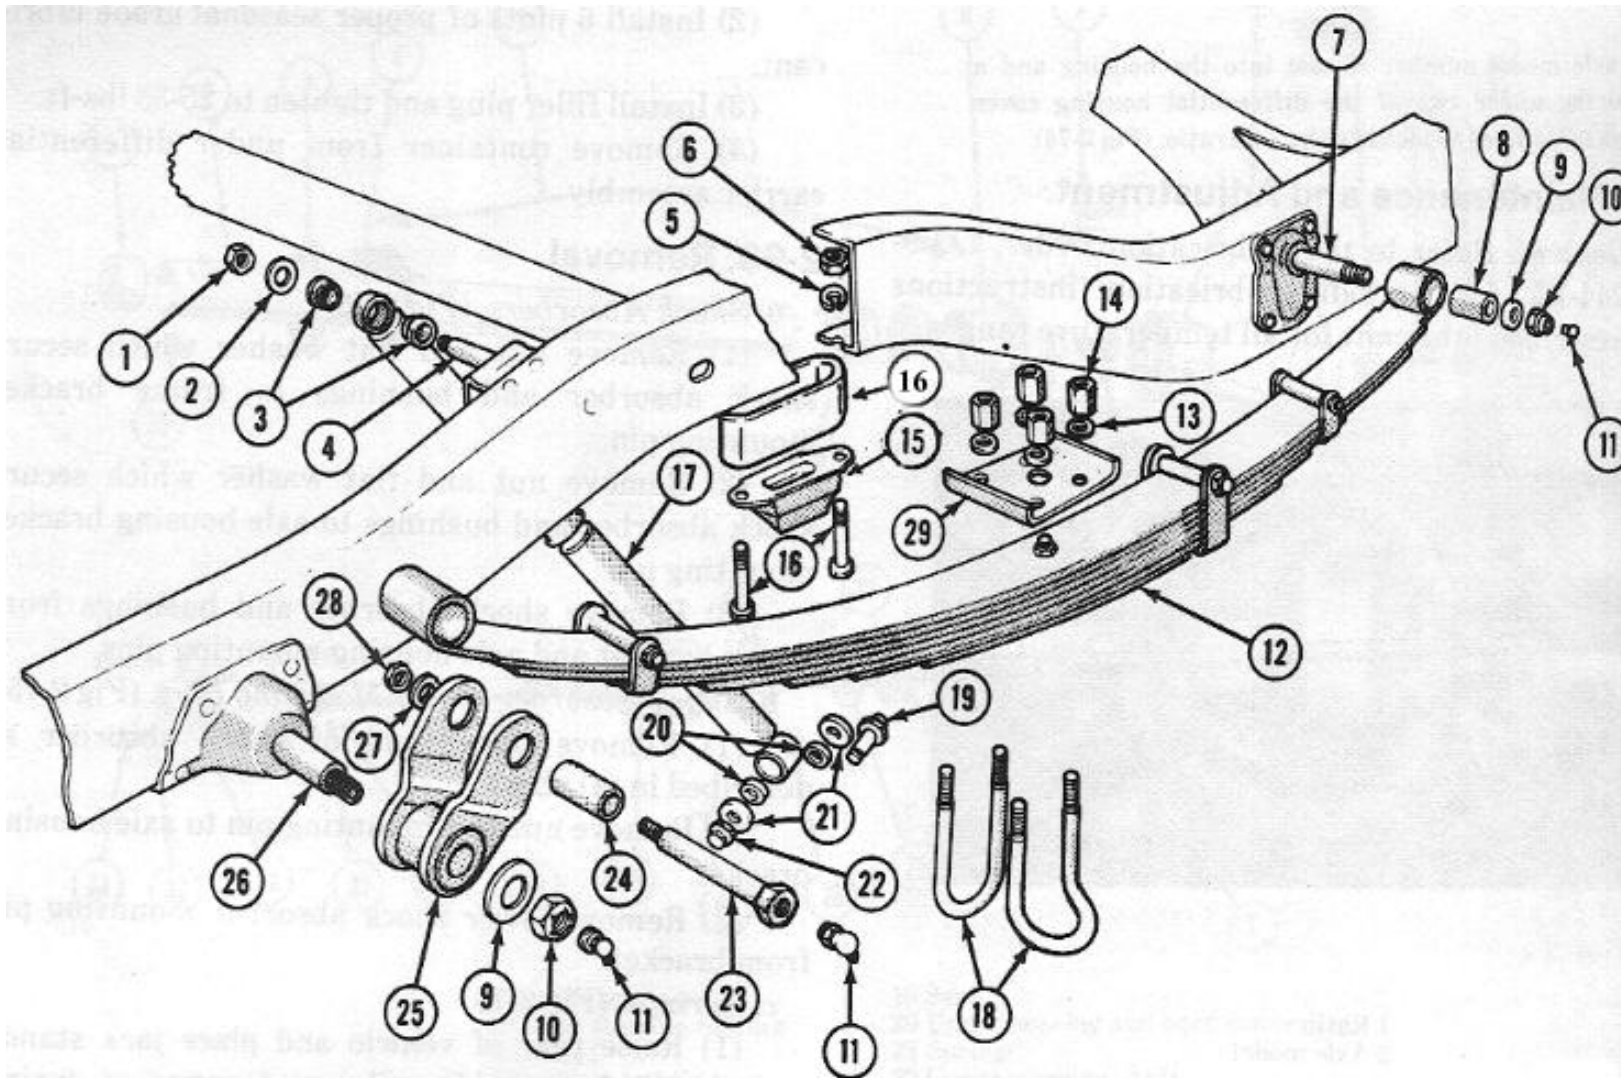

FIGURE 2-75. Rear Suspension Components
a. Shock Absorbers. (Fig 2-75)
- (1) Remove nut and flat washer which secure shock absorber and bushings to frame bracket mounting pin.
- (2) Remove nut and flat washer which secure shock absorber and bushings to axle housing bracket mounting pin.
- (3) Remove shock absorber and bushings from frame bracket and axle housing mounting pins.
b. Shock Absorber Lower Mounting Pins. (Fig 2-75)
- (1) Remove upper end of shock absorber as described in (a) above.
- (2) Remove nut and mounting pin to axle housing bracket.
- (3) Remove lower shock absorber mounting pin from bracket.
c. Springs. (Fig 2-75)
- (1) Raise rear of vehicle and place jack stands under each frame side rail just forward of spring front hangers.
- (2) Support axle with floor jack so that tension and compression are relieved from spring.
- (3) Remove four U-bolt nuts and lock washers.
- (4) Remove U-bolt anchor plate and U-bolts.
- (5) Remove nut and flat washer from spring front hanger bolt.
- (6) Remove nut and washer from rear shackle bolt. Remove bolt from shackle and spring bushing using a drift.
- (7) Remove spring from vehicle.
- (8) Remove bolts, nuts, lock washers and remove spring bumper from frame.
a. Springs. (Fig 2-75)
- (1) Position spring assembly on spring seat so that head of spring center bolt is properly located in the hole in spring seat.
- (2) Position U-bolts on top of spring assembly.
- (3) Position U-bolts over axle tube and up through spring plate.
- (4) Install four lock washers and nuts on U-bolts. Do not tighten.
- (5) Position spring onto front hanger pin. Install flat washer and nut. Do not tighten.
- (6) Position rear spring eye in shackle. Install spring rear eye bushing bolt and nut. Do not tighten.
- (7) Tighten U-bolt nuts to 90-100 lbs-ft.
- (8) Tighten front and rear spring hanger pin and shackle bolt nuts to 55-75 lbs-ft.
- (9) Install spring bumper to frame and secure with bolts, nuts and lockwashers.
- (10) Remove jack stands and lower vehicle to floor.
- (11) Remove floor jack from under vehicle.
- b. Shock Absorber Attaching Pins (Fig 2-75)